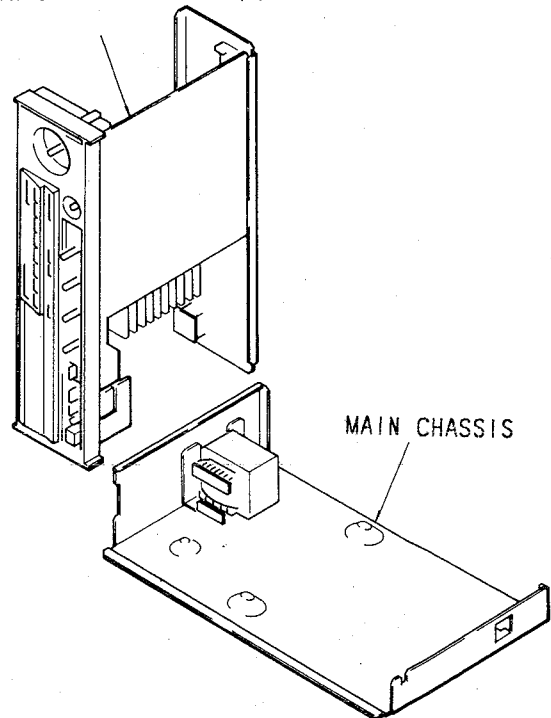

Fig.2
b. Remove the Main Chassis as shown in Fig.2.